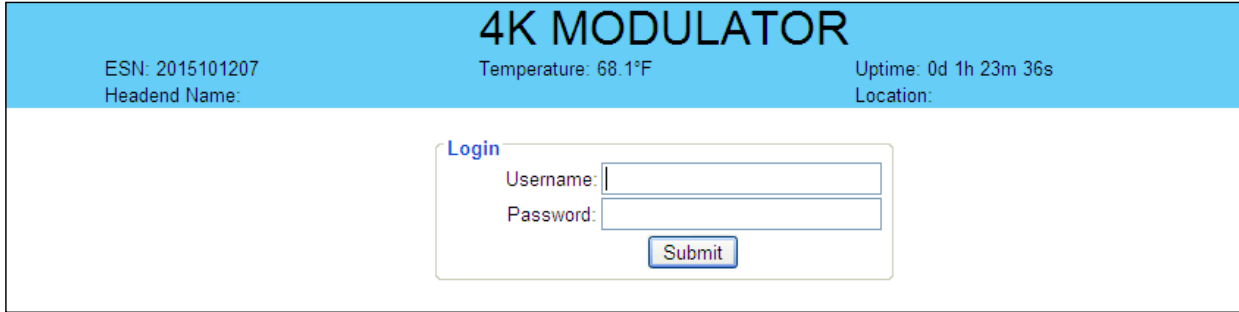

Figure 4.1 - “Login” Screen
- 1 Open a web browser on your computer (Internet Explorer 7 or higher is recommended) and enter the following URL address (**http://172.16.70.1**). The “Login” Screen (Figure 4.1) will appear.